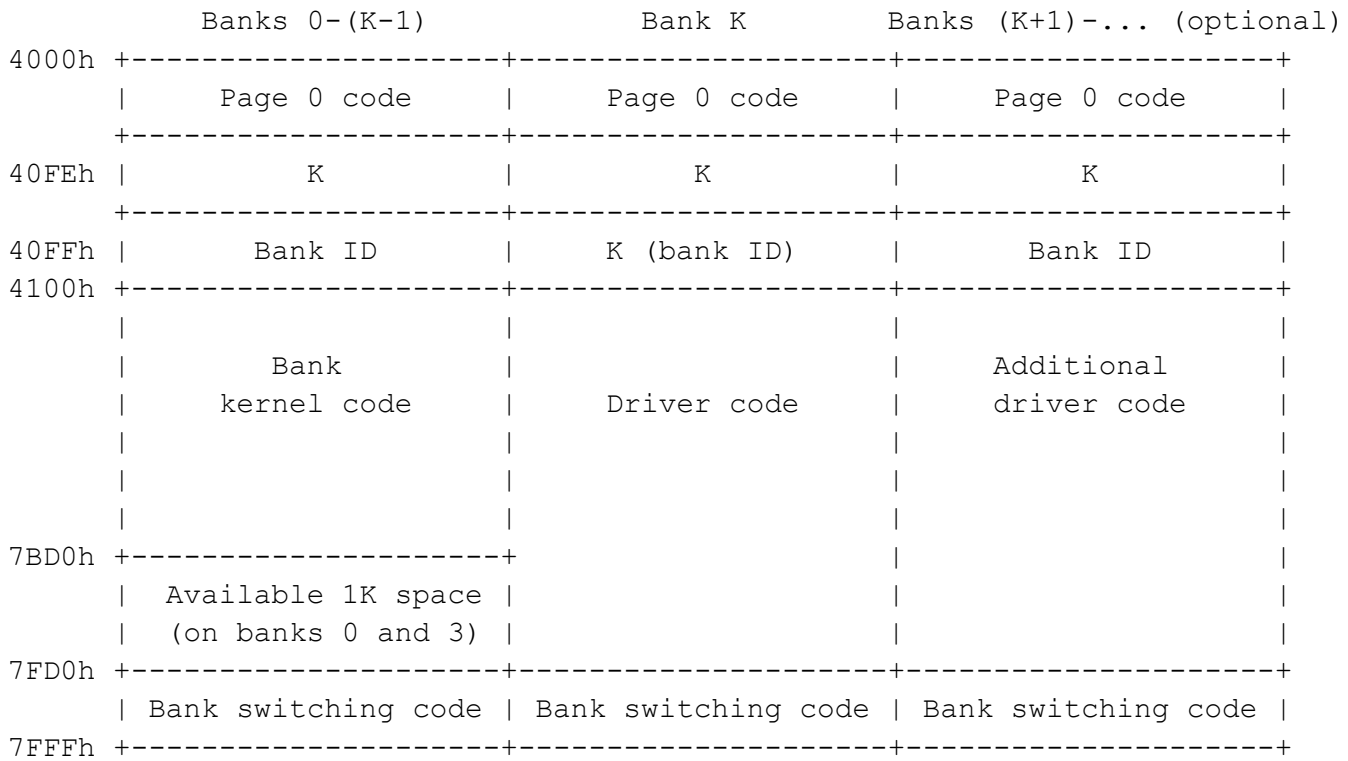

Figure 3 - Nextor kernel structure ("K" is the kernel common code bank count)
Figure 3 shows a diagram with the structure of a Nextor kernel.
- The Nextor kernel base file. This file contains the kernel common code, that is, the “Banks 0-(K-1)” portion shown in Figure 3. Its bank switching code is for the ASCII16 mapper (the original mapper used by the MSX-DOS 2 kernel).